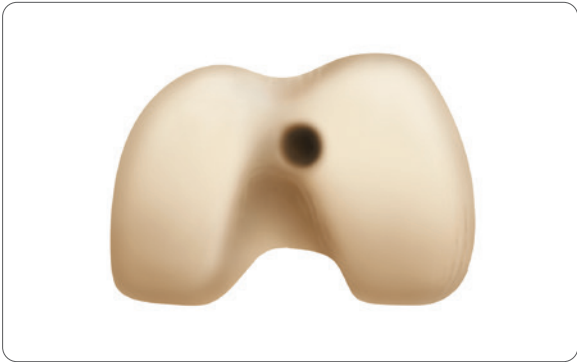

Figure 5
1. Open the femoral canal with a 9.5mm intramedullary drill (**Figure 5**).